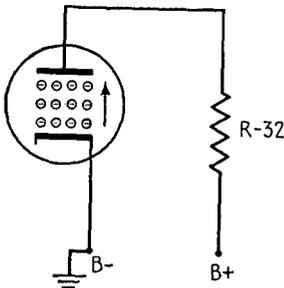
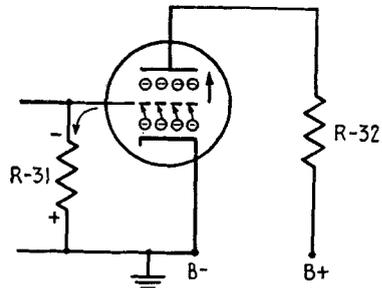

FIG. 11-2. Electrons being attracted from the cathode to the positive plate.
FIG. 11-3. Electrons impinging on the grid of a tube in developing contact bias.
**Operation of contact bias.** When the schematic diagram is studied, it would seem at first glance that there is no grid-bias voltage on the triode section of V-4, since the grid goes to ground through R-31 and the cathode is also at ground potential. To understand how a bias voltage is developed between grid and cathode, first assume a condition of no signal input. In the tube, the cathode is emitting electrons which are attracted by the positive plate, as shown in Fig. 11-2. Some of these electrons impinge on the grid located between cathode and plate, as shown in Fig. 11-3. These will flow through the grid load R-31 back to cathode. Since R-31 usually has a high resistance, it will not require very much grid current flow to develop a voltage across it. By applying Ohm's law,  $E = I \times R$ , a current of only 0.1 microampere (0.0000001 amp) will de-
velop 1 volt across 10 megohms, the usual size of R-31. Note the arrow showing direction of electron flow through R-31 in Fig. 11-3. Since electrons flow from negative to positive, the grid end of R-31 is negative, with respect to the ground or cathode end, by this voltage drop. Therefore, a small negative bias is established on the grid. This negative bias remains constant for a particular circuit because, as fast as electrons leak off the grid across R-31, new electrons impinge on it, and therefore a condition of equilibrium is set up whereby a slight negative bias is maintained on the grid. Condenser C-31 prevents electrons from leaking across R-27 to ground.